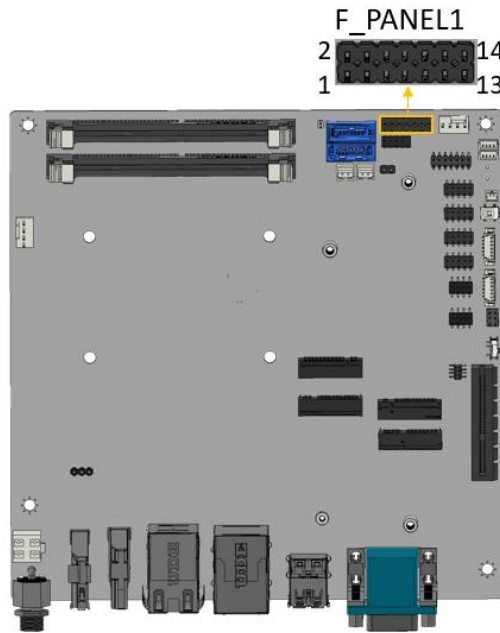

Figure 3-11: Front Panel Connector
- CN Location:** See Figure 3-11